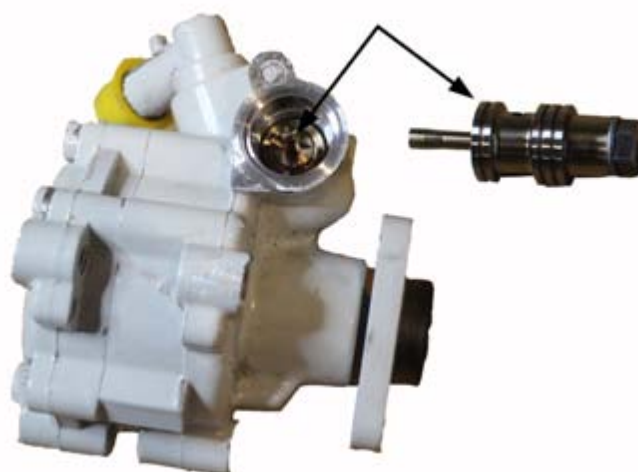

Figure 55. The hydraulic pump and the pressure relief valve
3. Lift out the pressure relief valve (figure 55) and clean it of any debris and impurities.